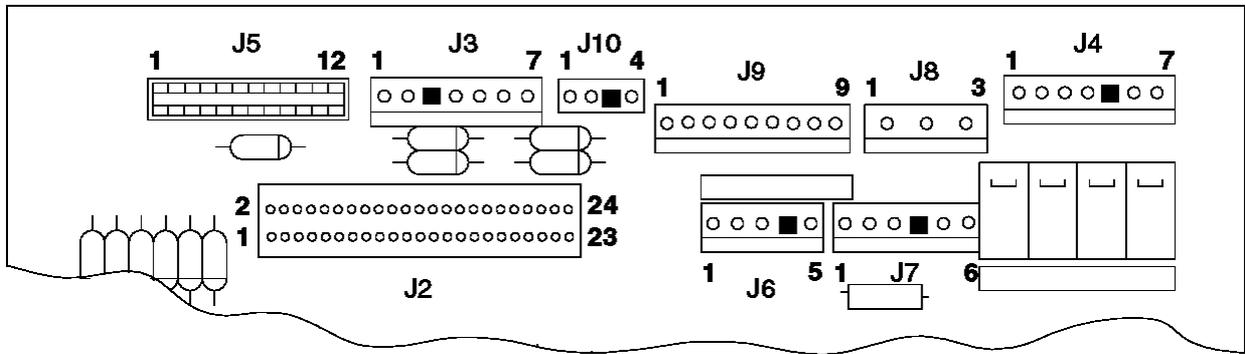

Figure 6-17. Printer Card Connections
- Measure the voltage between J9-4 (negative) and J9-1 (positive). See Figure 6-17.
- Press the DI down button (5). The voltage should drop from +5 V DC to less than +0.5 V DC.